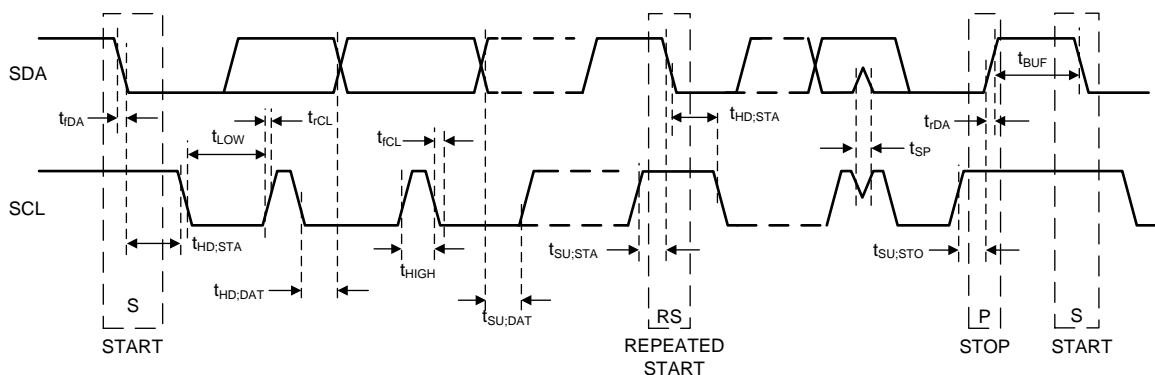

Figure 1. I²C Timing
(1) See Figure 1 for timing diagram.
(2) C_b refers to the capacitance of one bus line. C_b is expressed in pF units.